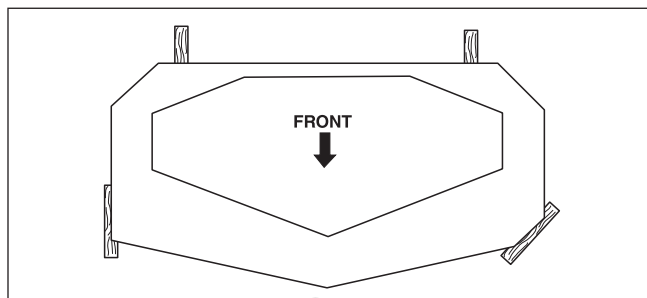

Figure 34. 2 x 4 Locations
6. Block up the mower deck until all hanger chains are slack. Refer to Figure 34.
3. Place 2 x 4 blocks under each corner of the mower deck with the 3-1/2" sides being vertical. See Figure 34.